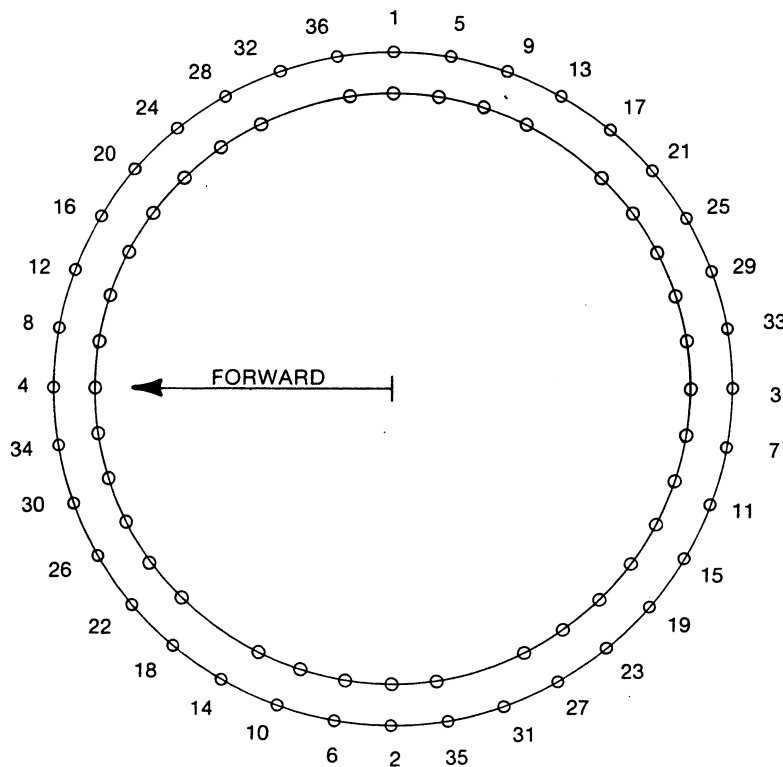

Figure 2-18. Swing Bearing Torquing Sequence.
- (p). Following the Torque Sequence diagram shown in Figure 2-18 tighten the bolts to an initial torque of 60 foot pounds (8.34 Kgm). Then following the same sequence tighten the bolts to a final torque of 80 foot pounds (11.12 Kgm).